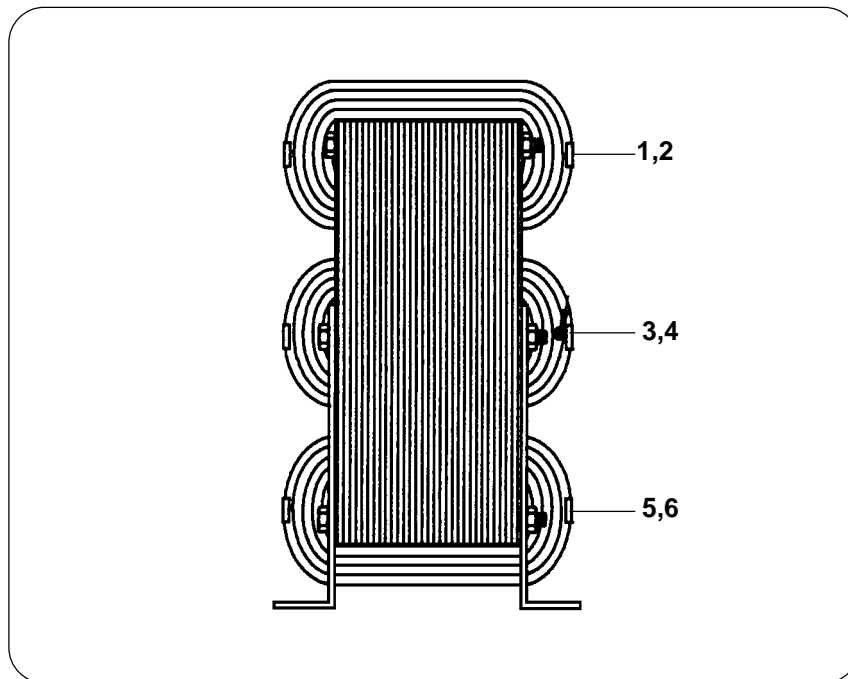

Figure 4 Front View of Three-Phase Transformer
3. Remove the cables marked **1,2 3,4** and **5,6** on the large transformer (T2) located on the base of the power supply. See Figure 4 below for location of terminal connections for **1,2 3,4** and **5,6** on the three-phase transformer.
4. Attach the long wires from the chopper labeled **1**, **2**, and **3** to the large transformer (T2) as follows (Refer to Figure 4):